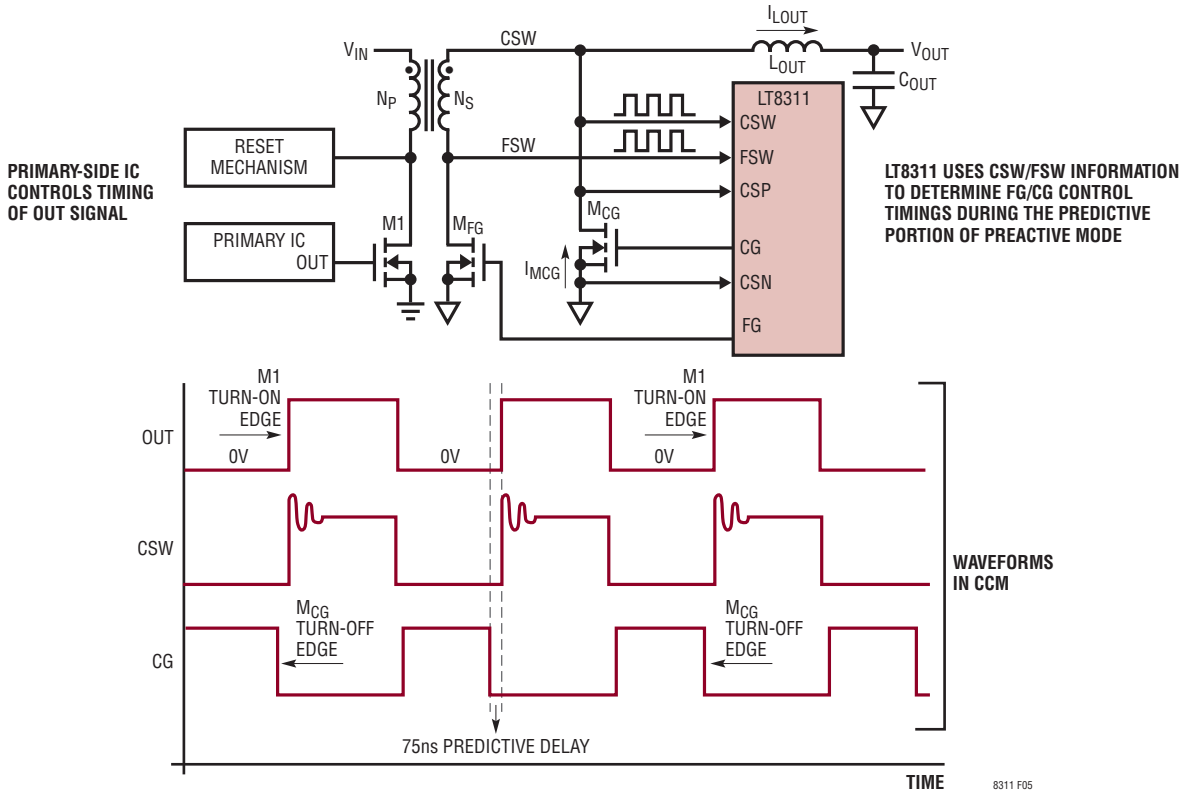

Figure 5. During the Predictive Portion of Preactive Mode, the LT8311 Phase Locks into the CSW Rising Edge and Turns Off MCG 75ns Prior to This Edge
"Preactive" is short for "predictive" + "reactive". In preactive mode, the LT8311 controls the secondary synchronous MOSFETs without any communication from the primary-side IC. In preactive mode, the catch MOSFET,  $M_{CG}$ , is turned on (CG rising edge in Figure 5) when the voltage on its drain, CSW, is detected to be below  $-150\text{mV}$ , and the forward MOSFET,  $M_{FG}$ , is detected to be off.  $M_{CG}$  is turned off when the first of two events after  $M_{CG}$ 's turn-on occurs:
- **Predictive  $M_{CG}$  Turn-Off** (Figure 5): In predictive turn-off, the LT8311 predicts when M1 will turn on in the next cycle, and turns off  $M_{CG}$  100ns prior to this event. Predictive turn-off of  $M_{CG}$  prevents cross conduction between  $M_{CG}$  and M1. M1's turn-on timings are predicted by phase locking to the rising edge of present and past CSW cycles. Predictive turn-off relies on the periodicity of M1's turn-on edge, an inherent aspect of fixed-frequency operation. Furthermore, the predictive turn-off is designed to be independent of the duty cycle of the system, which allows  $M_{CG}$  to be correctly turned off, even during load/line transients. Predictive turn-off will typically be the dominant turn-off mechanism for  $M_{CG}$  in CCM.